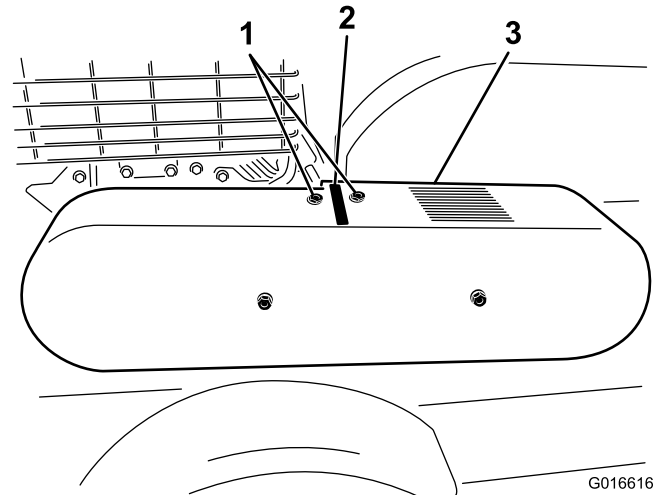

Figure 25
Note: Inspect the drive belt tension by inserting a metal scale through the slot on top of the belt cover (Figure 25) and pressing down on the scale with a force gage. The force should measure $15 \pm .75$ lbs (6.5–7.5 kg) at 0.40 inch (1cm) belt deflection. Adjust as required.
2. Remove the belt guard (Figure 25).
- Remove the belt guard (Figure 25).